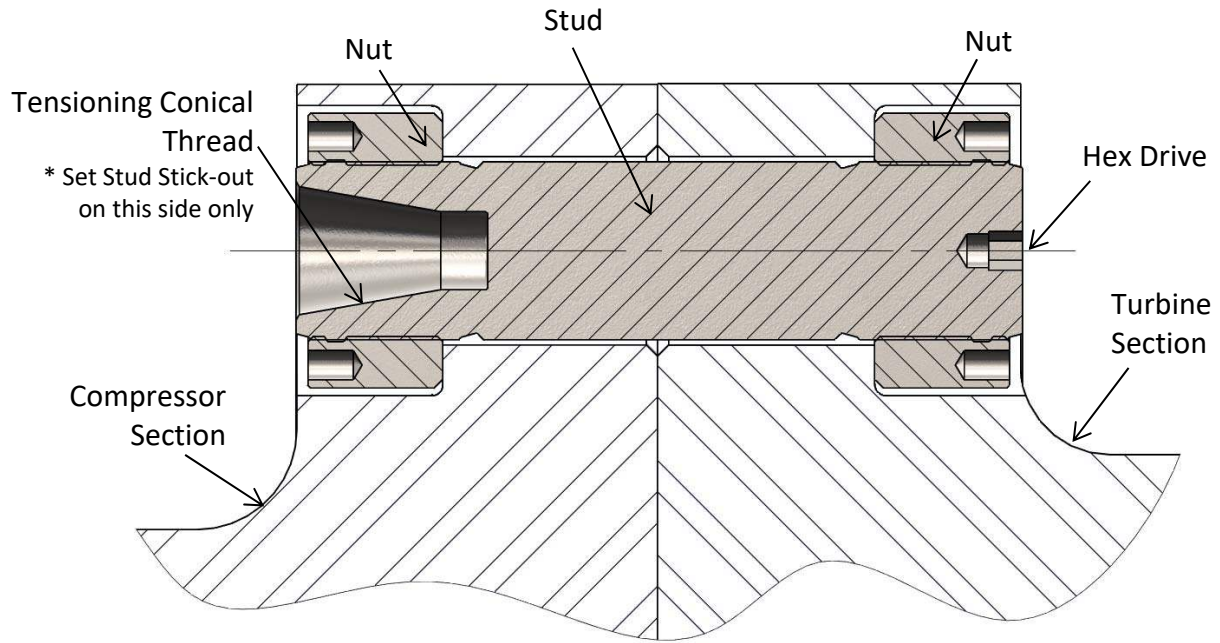

Figure 6A – Cross-section View of Gas Turbine to Mechanical Drive Bolted Flange Connection
3. Slide the stud and cylindrical nut assembly into the flange as shown in Figures 6A, 6B, and 6C.